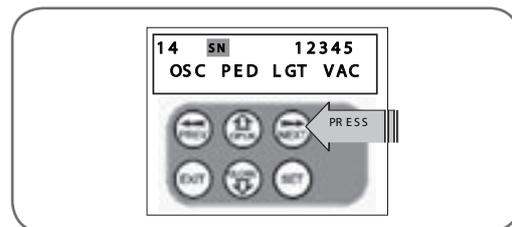

fig 39
2. Press NEXT to reveal Serial Number (**Fig. 39**).